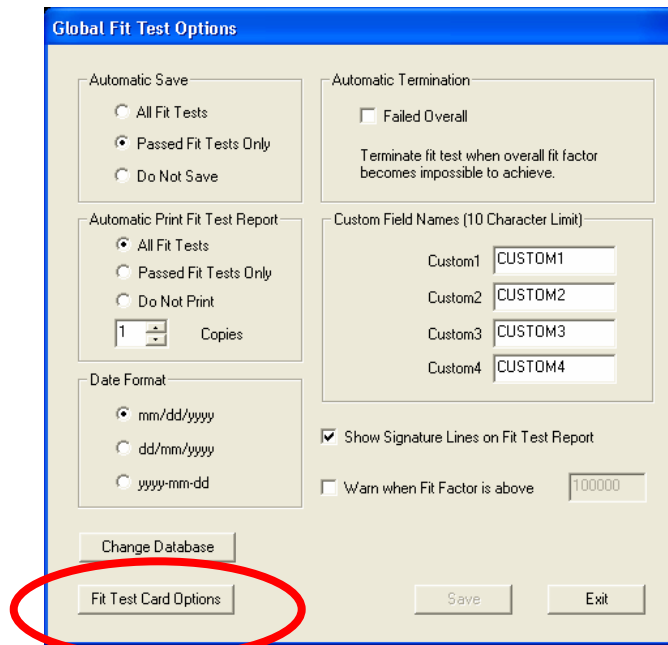

Figure 10-3. Global Fit Test Options Dialog
3. Start FitPlus Fit Test Software on your computer. Click **No** for the Daily Checks and **Exit** step 1 of the fit test process so that you are looking at the empty FitPlus screen. Then pull down the **Setup** menu and select **Global Fit Test Options**. You will see the **Global Fit Test Options** dialog shown in Figure 10-3.
4. From the **Global Fit Test Options** dialog, click **Fit Test Card Options** (see Figure 10-3).